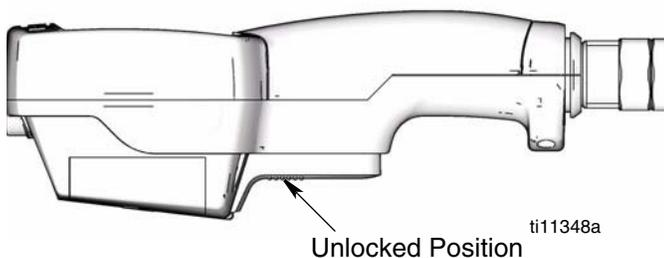

FIG. 20
**To unlock the trigger (FIG. 20)**, press on the smooth part of the trigger until you feel it click out of the locked position. When you release the trigger, fluid flow stops.